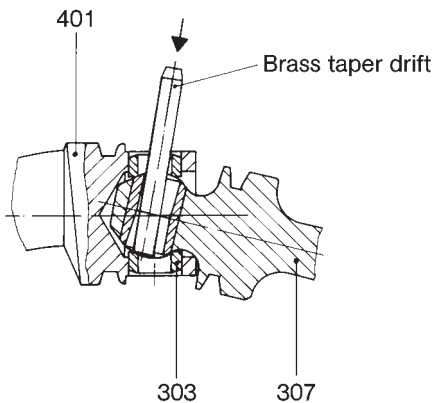

Fig. 4: Removal of guide bushes
- Push out coupling rod pin (301)
- Drive guide bushes (303) half-way out by means of a brass taper drift. For this purpose, tilt coupling rod (307). Please see Fig. 4.